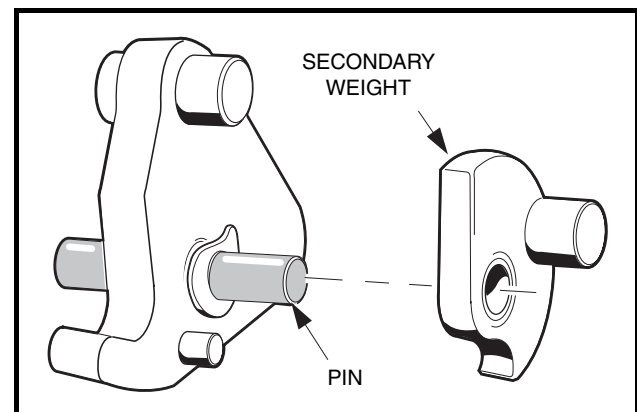

Figure 20-11 Install Secondary Weight
9. Install the secondary weights onto the mounting pins with the weight pins on the secondary weights pointing away from the primary weights. The wave washers should be between the primary and secondary weights (**Figure 20-11, Page 20-8**).